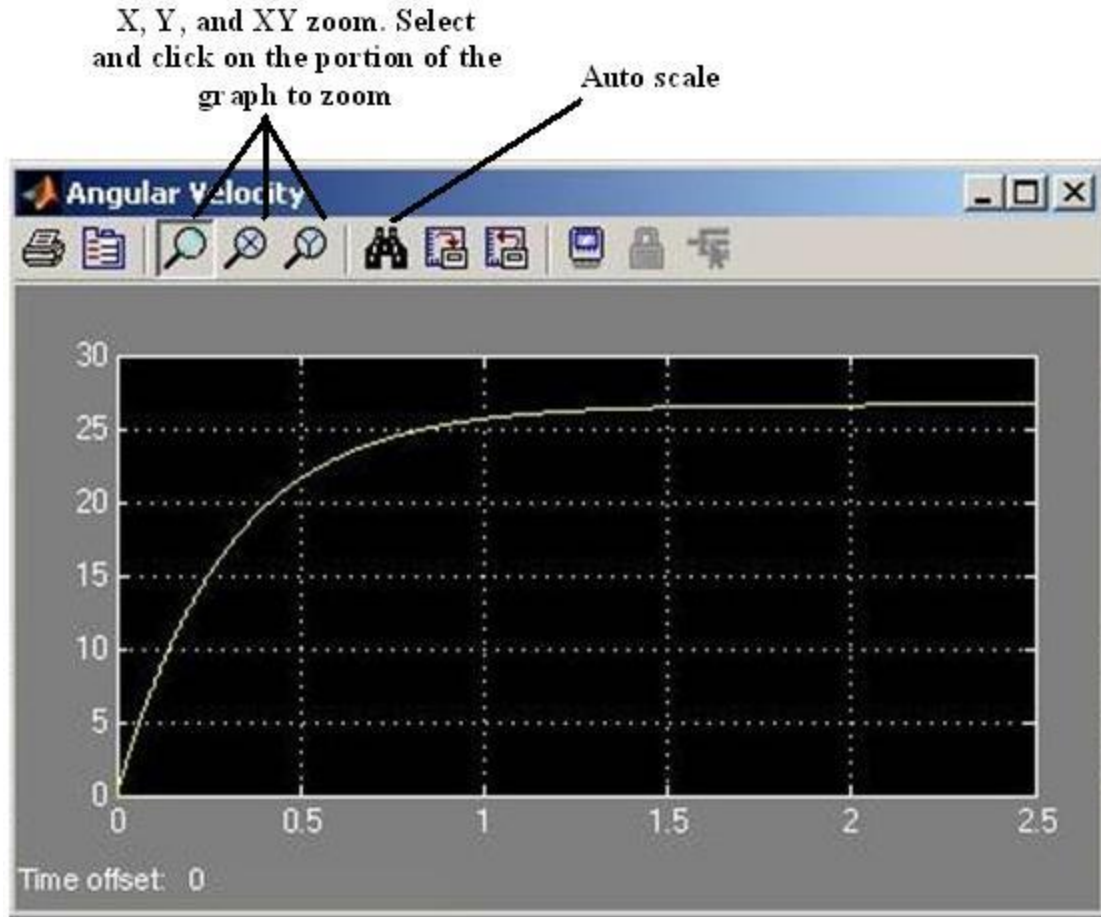
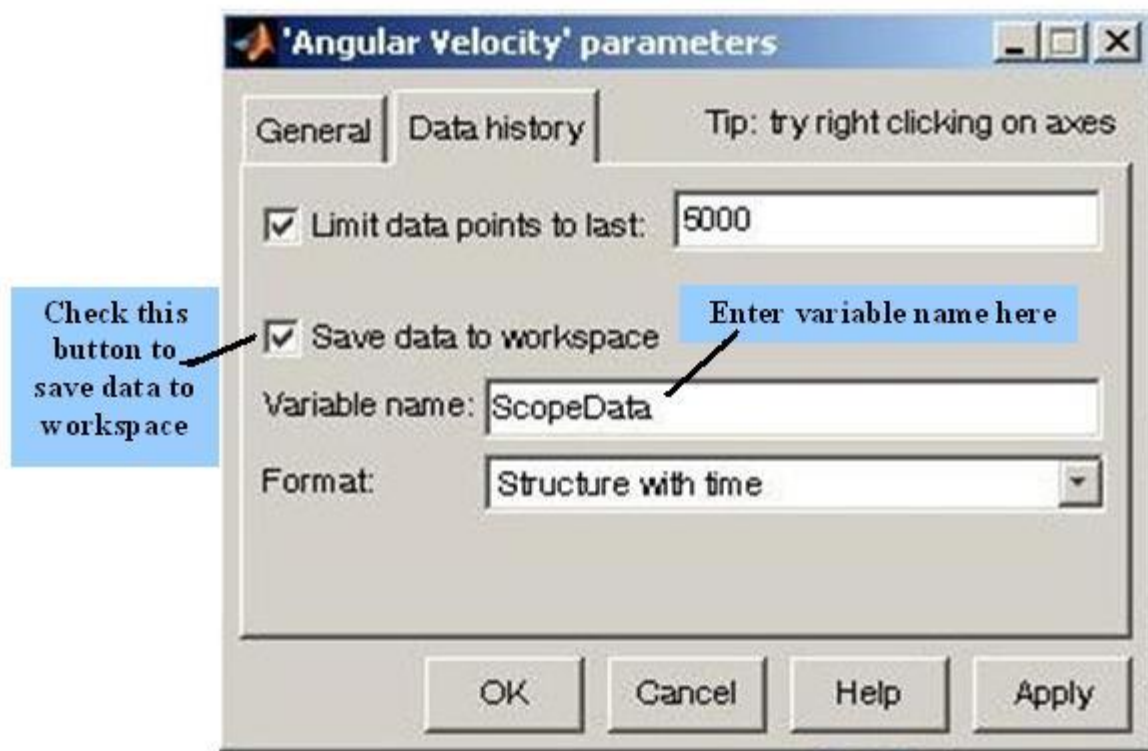

Fig. M3.14 Scope display of angular velocity
Fig. M3.16 *Scope parameter setting window*
Now we are ready to simulate our block diagram of armature-controlled dc motor. Press  icon to start the simulation. Note that the icon changes to ; pressing this icon, one can stop the simulation before stop time. After simulation is done, double click the **Scope** block to display the angular velocity variation with time. Click the autoscale icon  in the display window to scale the axes as per the variable ranges. Autoscaled scope display is shown in Fig. M3.14. With zoom facility, try zooming the portion of graph between 0.5 to 1 sec, and 20 to 25 unit angular velocity to identify the numerical value of angular velocity at 0.8 seconds.
Click the icon  shown on the icon bar of Fig. M3.14 to open scope parameter editor (Fig. M3.16). **General** parameters include **Number of axes**, **Time range**, **Tick labels**, and **Sampling**.
3. **Array** : Array format is simply a two column matrix with number of data points being equal to number of rows. The maximum number of data points limits to the number entered in the box **Limit data points to last**. In Fig. M3.16, the limit is 5000 data points.